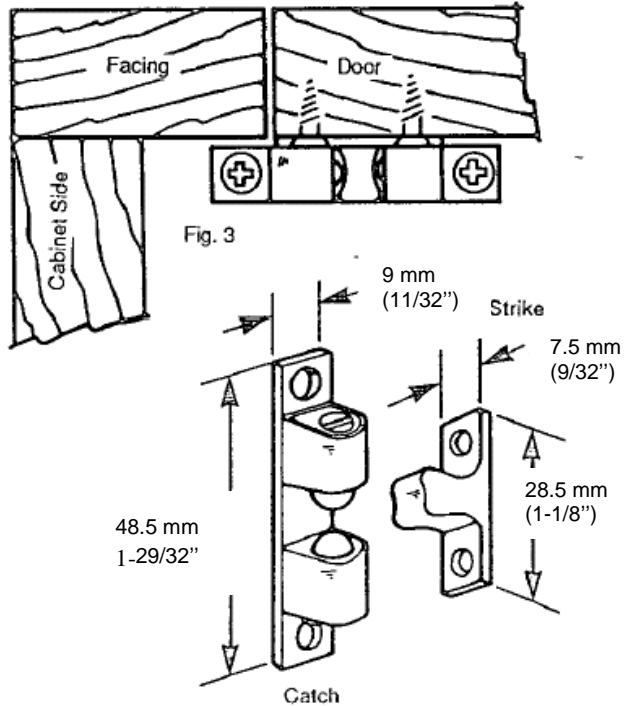

Fig. 3
Steps of Procedure - mounting to inside of lower case member (see Fig 3)
1. Interlock strike sideways to catch. Position catch on cabinet with strike base facing toward door. Align strike to meet inside door face in closed position. Mark off screw hole centers of catch in lower case member with pencil. (See Fig. 3)
4. Drill pilot holes in door and attach strike to door with two (2) screws.